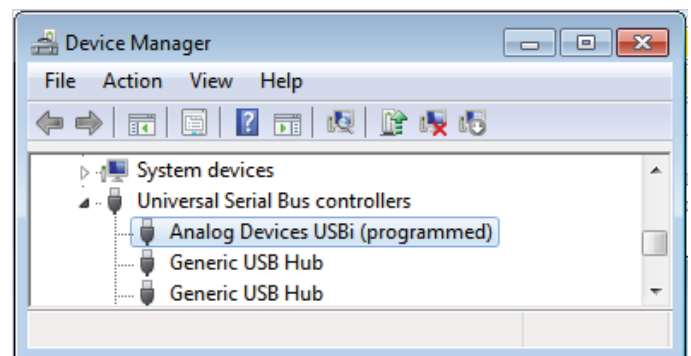

Figure 8. Confirming Driver Installation with the **Device Manager**
- In the Windows **Device Manager** under the **Universal Serial Bus controllers** section (see Figure 8), check that **Analog Devices USBi (programmed)** is displayed.